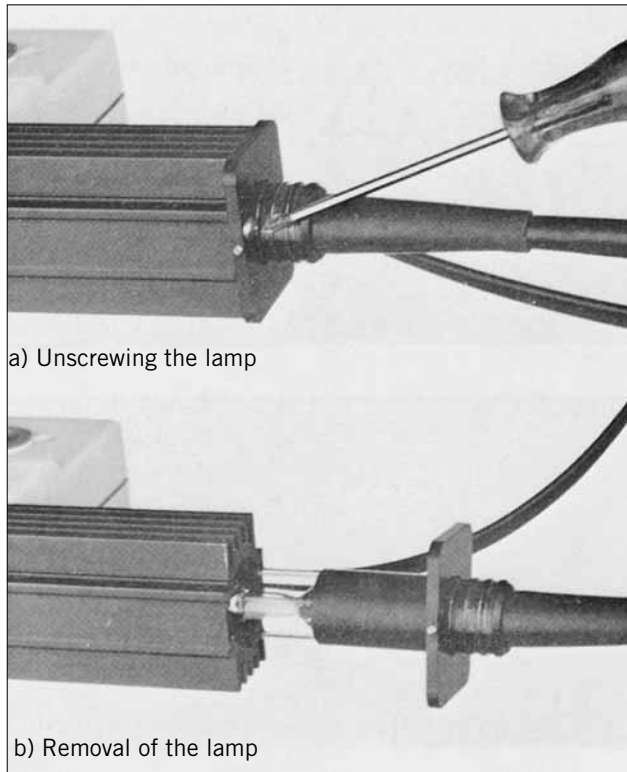

Fig. 13. Changing a defective lamp
1. Remove the two screws on the lamp housing end plate which is attached to the power cable (Fig. 13).